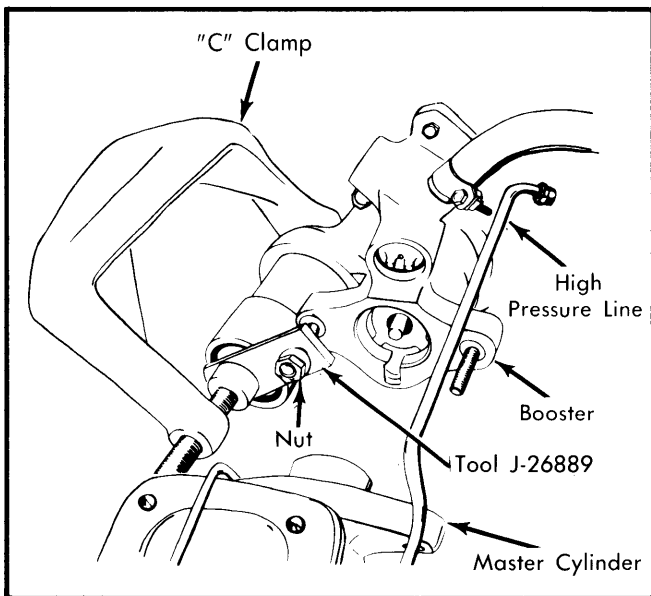

Fig. 4 Compressing Accumulator
6) Remove input rod seals and piston seal from piston bore. Place retaining cap tool (see tool chart for number) over master cylinder stud and install nut as shown in Fig. 4. Using a large "C" clamp, depress accumulator. Insert a punch into hole in housing and remove retaining ring with screwdriver.